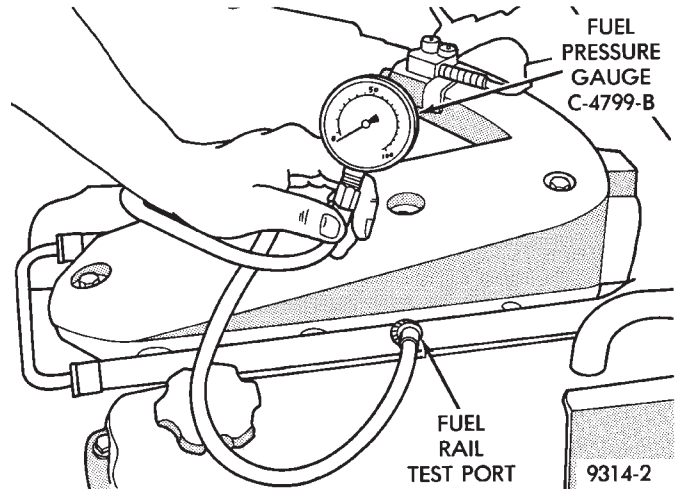
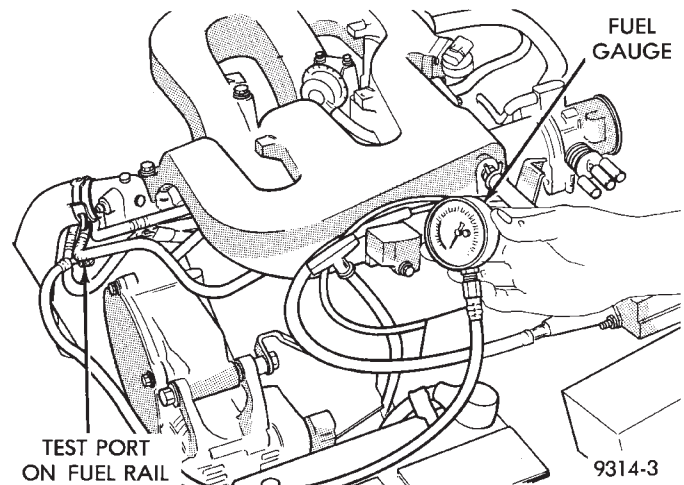

Fig. 10 Checking Fuel Pressure at Fuel Rail—3.3L Engine
Fig. 11 Checking Fuel Pressure at Fuel Rail—3.5L Engine
(1) Release fuel system pressure before disconnecting a fuel hose. Perform fuel system pressure release.
(2) Remove protective cover from service valve on the fuel rail.
(3) Connect Fuel Pressure Gauge C-4799B to fuel rail service valve. (Fig. 10) or (Fig. 11).
(b) Install Fuel Pressure Gauge C-4799 and Fuel Pressure Adapter 6631 in the fuel supply line (Fig. 11) between the fuel tank and fuel filter.